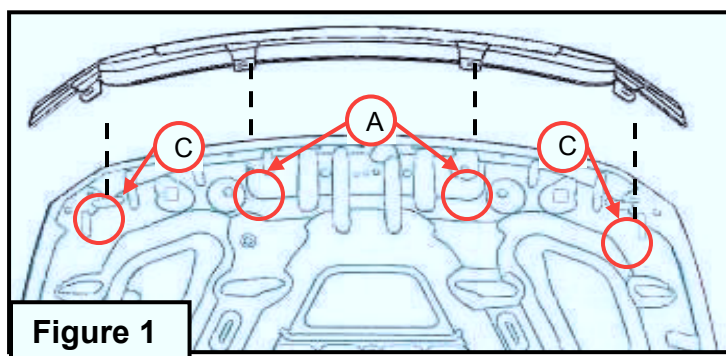

Figure 1
- Trial fit Hood Shield by aligning the mounting holes of the Hood Shield with the matching holes in the hood. **(Figure 1)**
- Attach supplied hardware to hood shield. Use figure 1 and 2 as a guide for proper hardware placement.
- Re-fit Hood Shield to the factory hood by aligning the rubber well nuts up with the factory slots. **(Figure 1)** Attach Hood Shield to the vehicle by installing the center mounting bolts first and working outwards. Tighten screws just enough to hold hood shield in place.